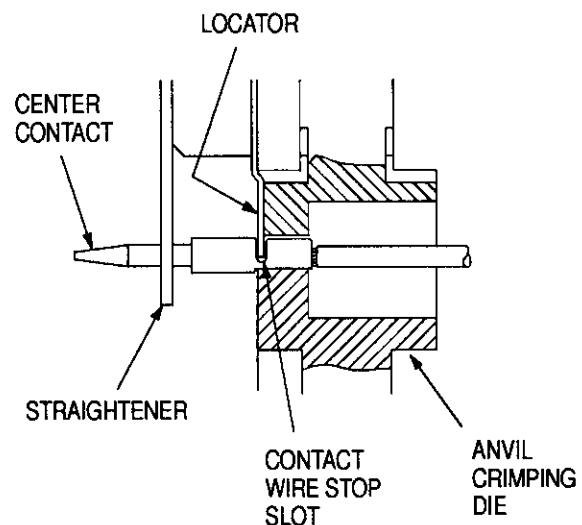

Figure 2
#### 4.1. Crimping the Center Contact (Figure 2)
2. Close the tool handles so that the dies partially close. Position the contact so that the locator drops into the contact wire stop slot and the end of the contact is inside the groove in the straightener. See cross-sectional view in Figure 2.
4. Insert stripped cable into contact wire barrel until it is butted against the locator. See cross-sectional view in Figure 2.
*The crimped center contact may stick in the crimping area, but the contact can be easily removed by pushing downward on the top of the locator (see Figure 2).*